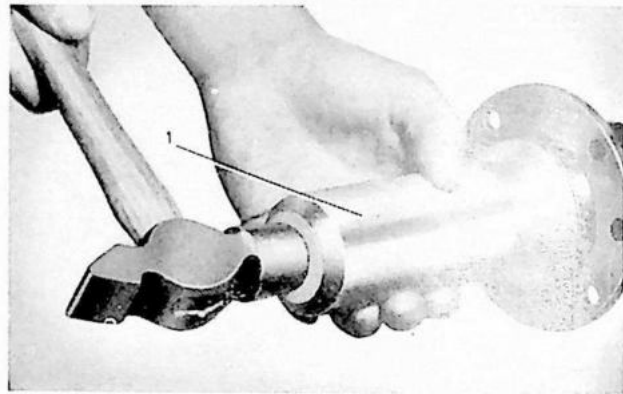

Fig. 20. Fitting bearing ring.
3. Pack ball bearing grease into the rear axle bearings and insert the drive shafts (11). Drive in the outer bearing rings with fitting sleeve SVO 1807, see fig. 20.